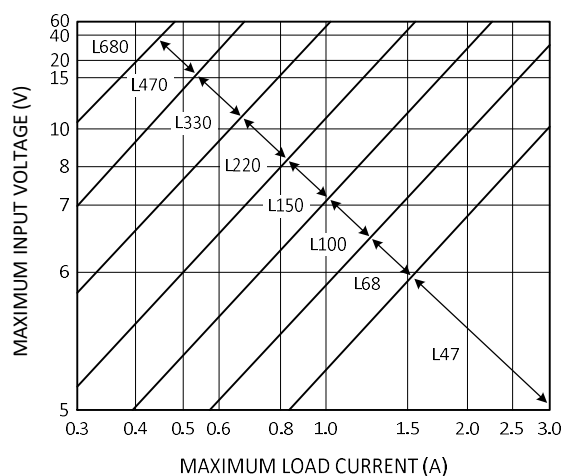
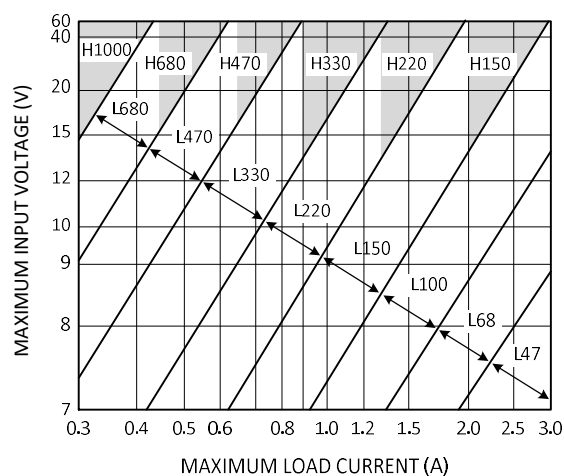
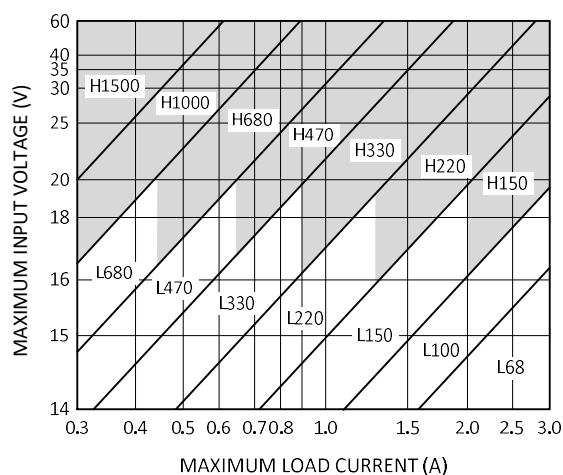
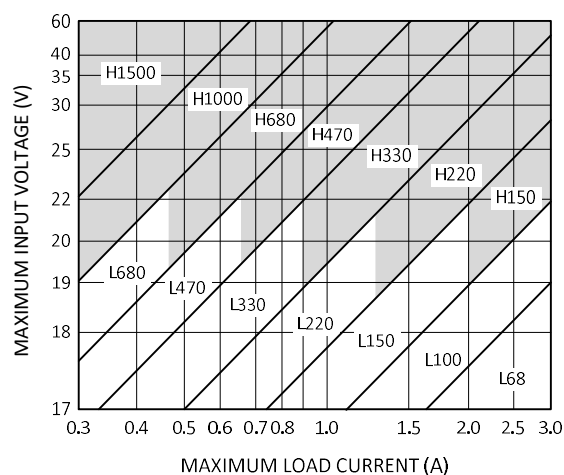

Figure 21. LM2576HV-3.3
Figure 22. LM2576HV-5.0
Figure 23. LM2576HV-12
Figure 24. LM2576HV-15
- 1) Select the correct inductor value selection guide from Figure 21, Figure 22, Figure 23, or Figure 24. (Output voltages of 3.3V, 5.0V, 12V or 15V respectively). For other output voltages, see the design procedure for the adjustable version.
- Use the selection guide shown in Figure 22.